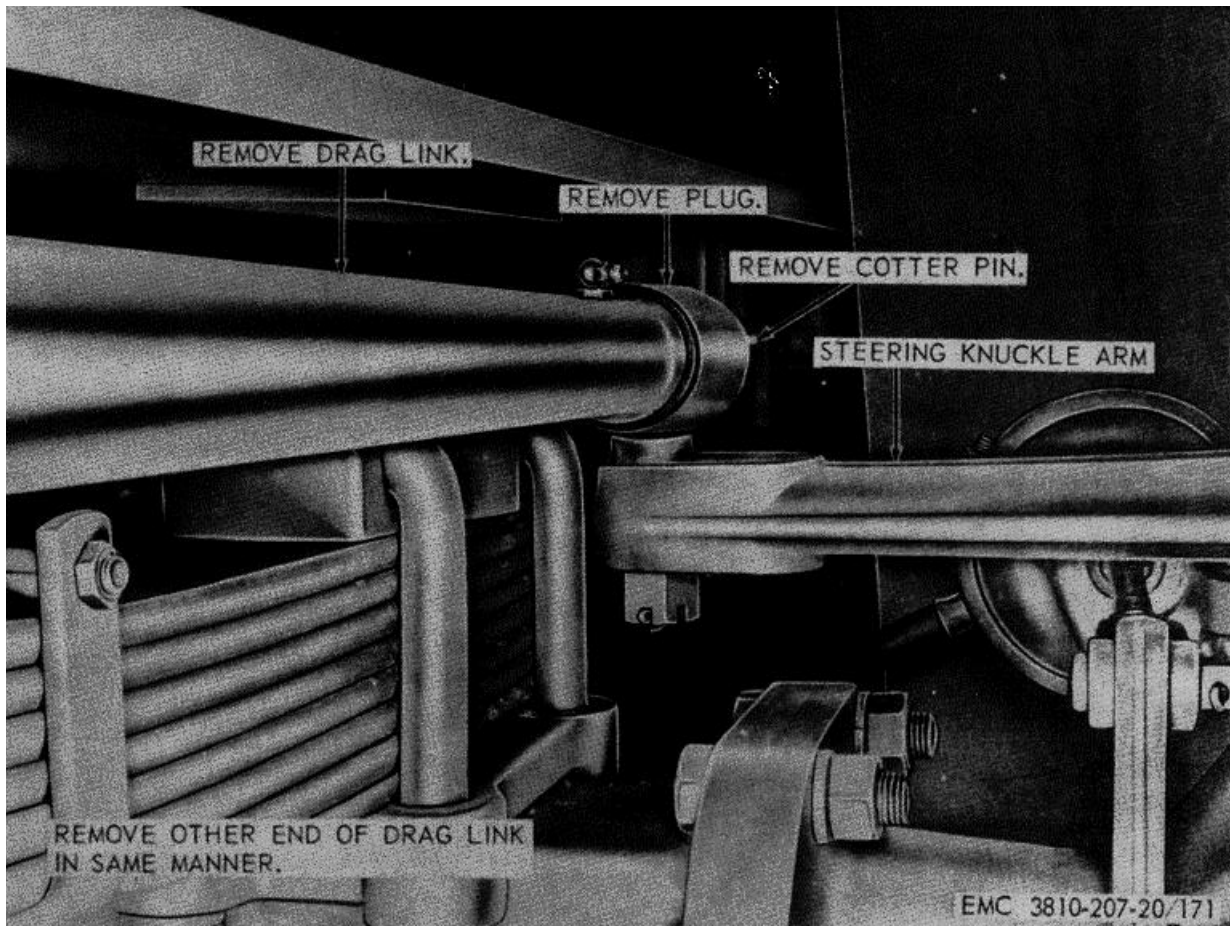

Figure 171. Drag link, removal and installation.
a. Removal. Remove the drag link assembly as instructed on figure 171.
- (1) Clean all parts with an approved cleaning solvent.
- (2) Inspect all parts for bends, breaks, excessive wear, and other damage. Replace defective parts as necessary.
c. Installation. Install the drag link assembly as illustrated on figure 171.